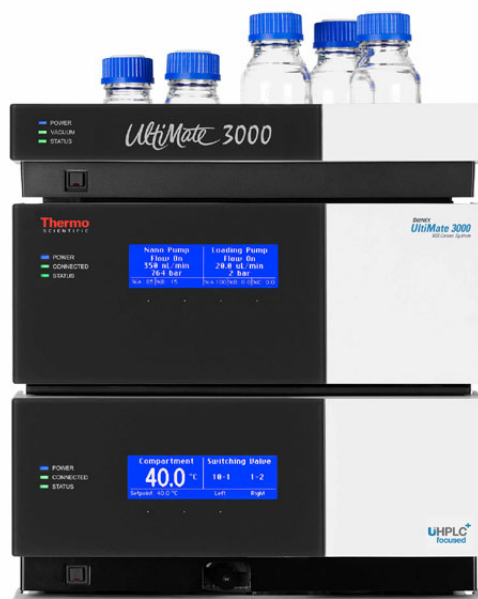

Fig. 24: NCS-3500RS with Solvent Rack
- Make sure that the tubing connecting the pump to the degasser is as short as possible and locate the solvent reservoirs as close as possible to the pump. To avoid formation of air bubbles in the reservoirs and reformation of air bubbles in the solvent, make sure that the reservoirs are on the same level or higher as the pump. Therefore, stack the Solvent Rack onto the module (\rightarrow Fig. 24).